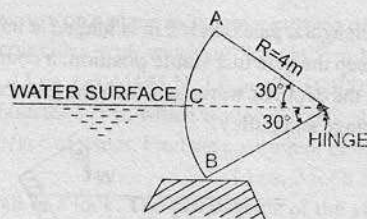

Fig. 3.60
21. Find the horizontal and vertical components of the water pressure exerted on a tainter gate of radius 4 m as shown in Fig. 3.60. Consider width of the gate unity. [Ans. $F_x = 19.62 \text{ kN}$, $F_y = 7102.44 \text{ N}$]